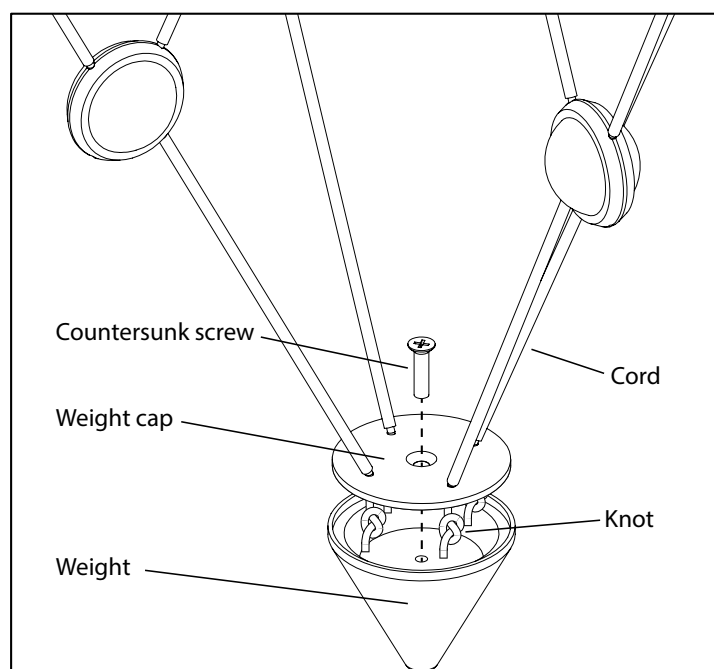

Fig. 3: Weight close-up
8. Following Fig. 3, thread bottom ends of cords through weight cap and knot ends. Using countersunk screw to secure cap to weight.
4. Bend the cord to create an opening through the bunched-up portion of outer braided conductor, then pull out the inner stranded conductor (Fig. 3)